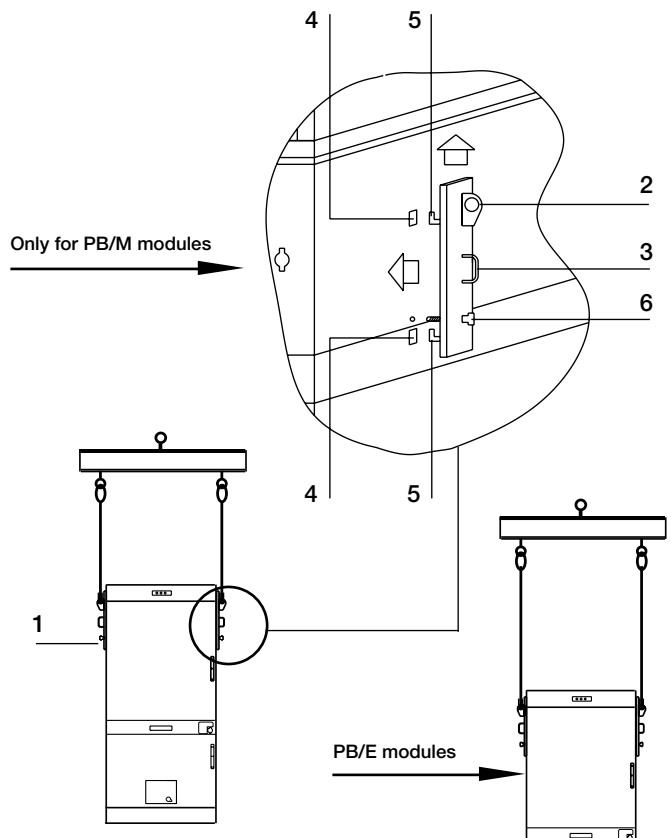

Fig. 3
After unpacking it, lift the unit by means of a crane, using the special eyebolts (1) (fig. 3) and the ropes fitted with safety spring catches, following this procedure:
- take hold of the lifting eyebolts by the handle (3);
- insert the hooking irons (5) in the slots (4) made on the side of the unit and marked with self-adhesive labels;
- push the lifting bolts against the module and make them slide upwards until the hooking irons (5) hit the top of the slot (4);
- fully tighten the positioning screw (6);
Lift the unit by means of a bridge or mobile crane or using jacks (fig. 3).